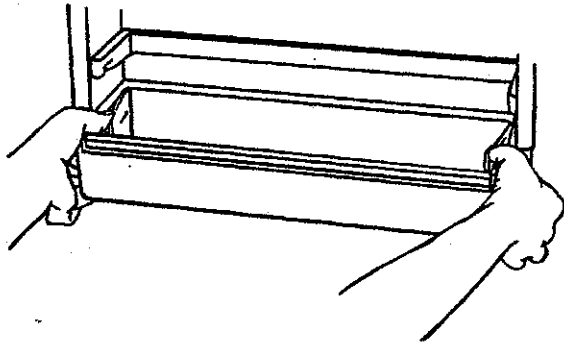

Figure 67
- Move bucket by holding lock tabs in and pulling bucket straight out. See Figure 67.